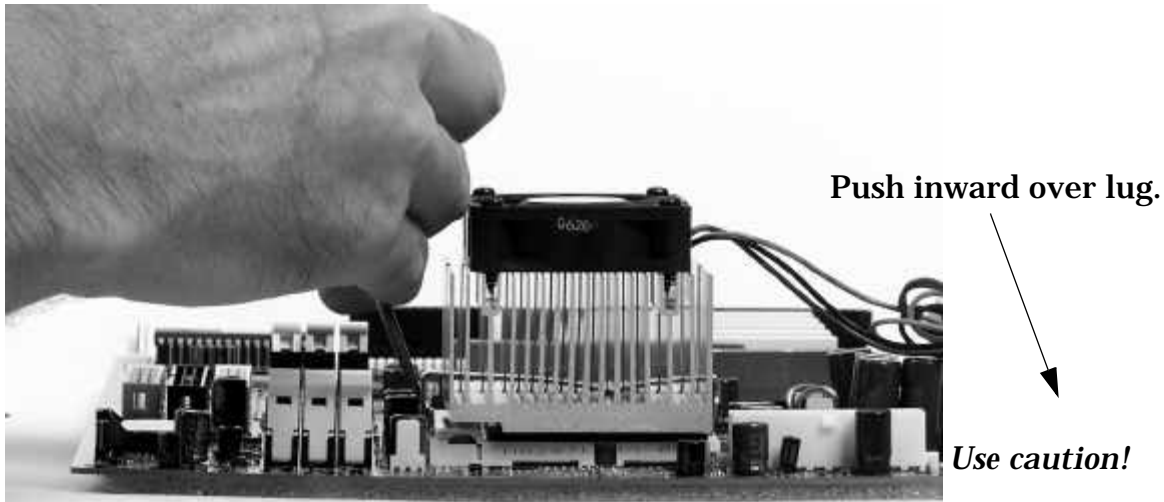

Figure 17. Locking the Clip on the Socket Lug
17. Figure 17 shows the clip being locked securely on the center lug. Keep the clip at the same level as the lug and press slightly inward so that the clip is hooked onto the center lug on the top end of the socket.